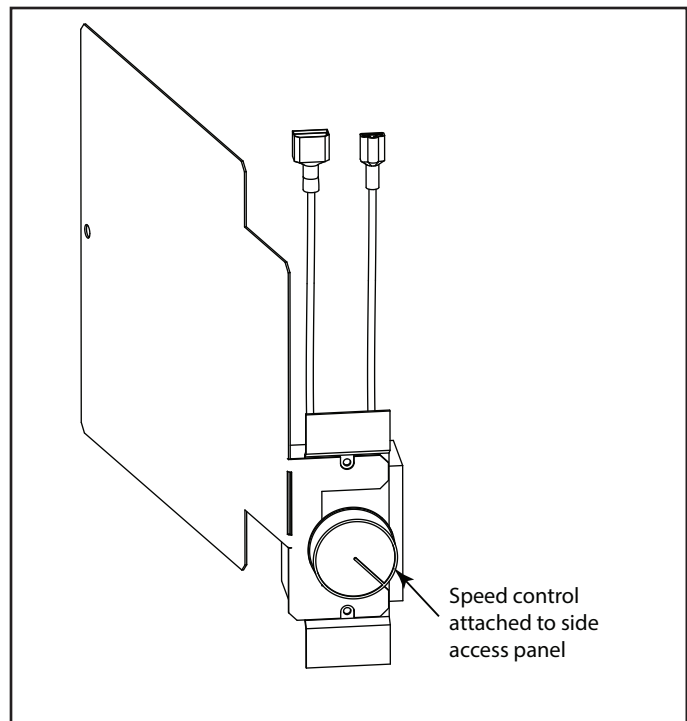

Figure 22
3. Using the side access panel removed earlier reattach the variable speed control to the side access panel. See Figure 22.